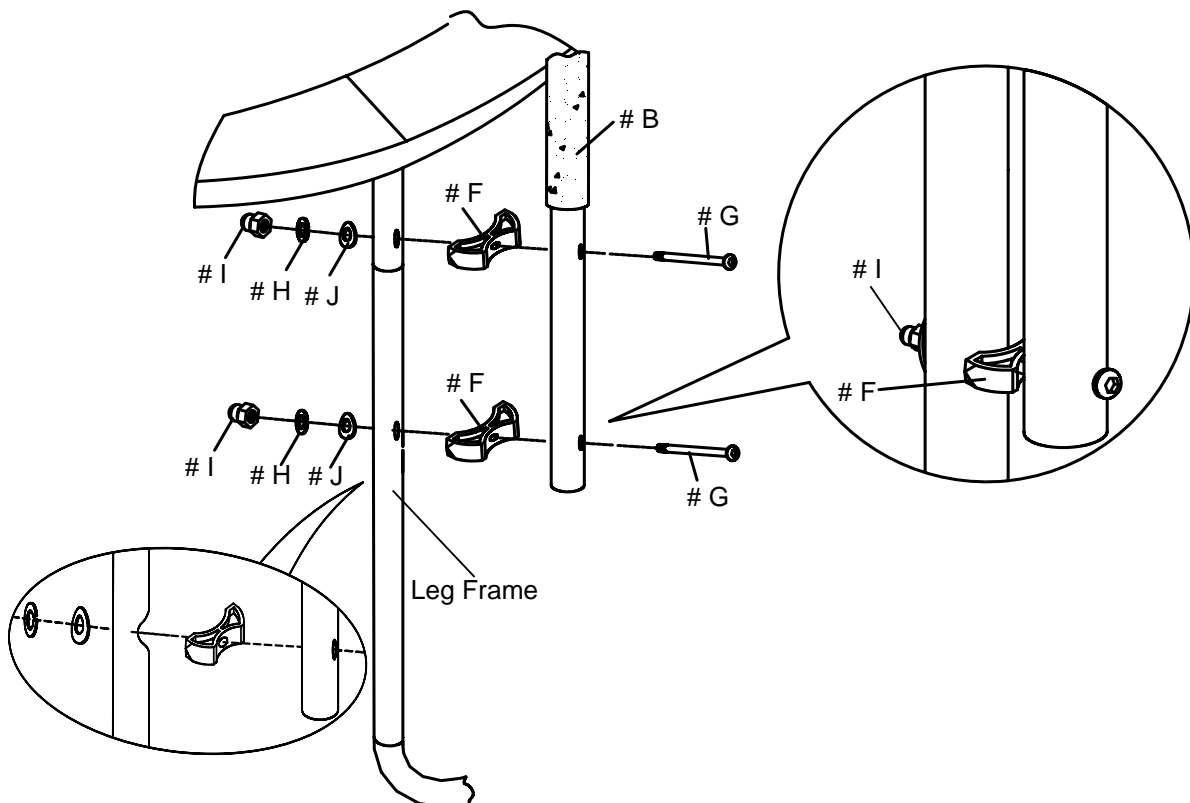

FIGURE 17
- A. Attach Screw (# G) to the Lower Frame Tube with Foam (# B) and Gap Spacer (# F), then to the LEG FRAME of the trampoline, secured by using Arc Washer(# J), Large Spring Lock Washer (# H) and Cap Nut (# I) as shown in FIGURE 17. Please be sure smaller arc of the Gap Spacer (# F) faces the Lower Frame Tube with Foam (# B) and the Gap Spacer should be located between Lower Frame Tube with Foam (# B) and LEG FRAME. Repeat this step for all frame tube sets.